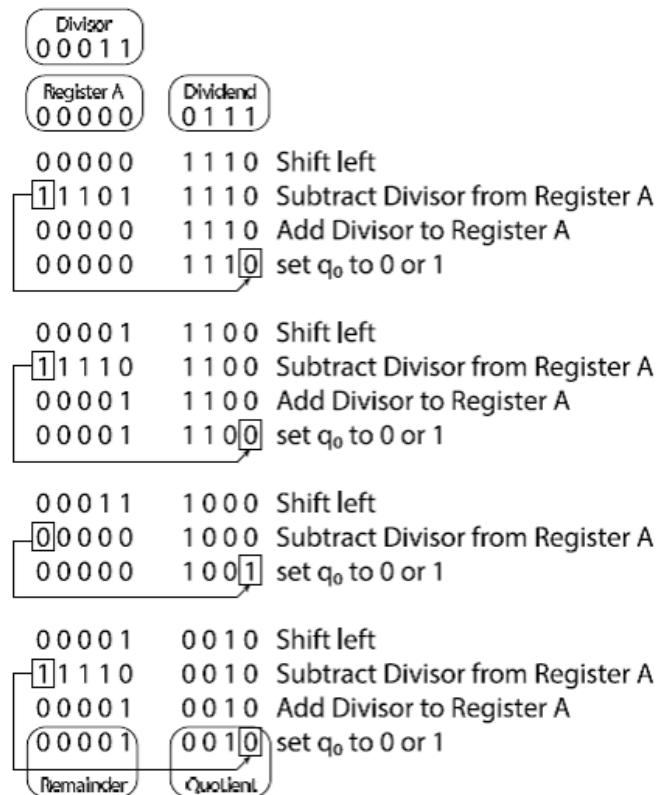
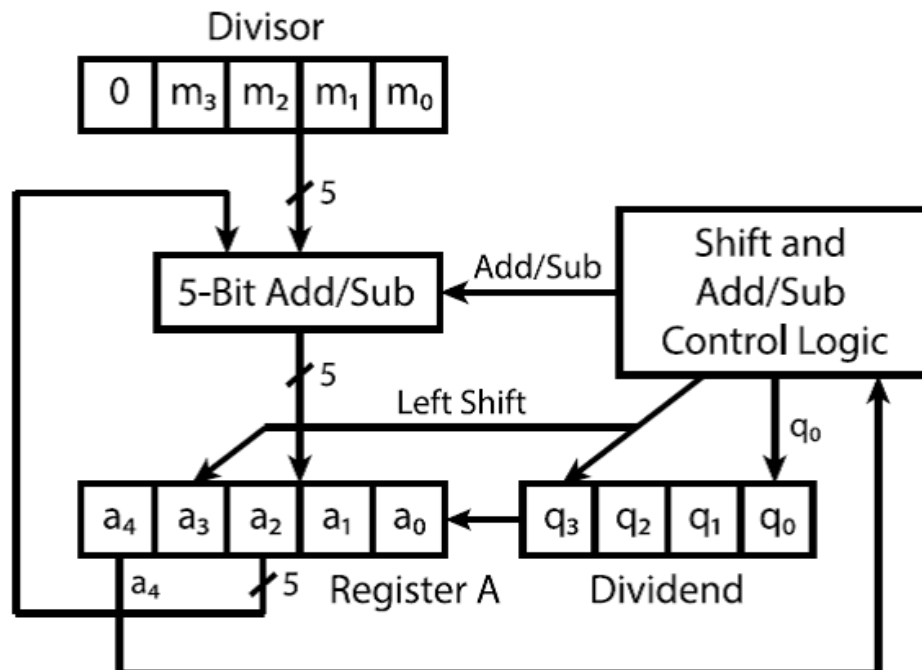

Figure 5: An example of how a restoring divider works.
Figure 6: Block diagram of restoring divider.
Figure 5 shows an example of how the restoring divider works. This mimics what you do when you do long division by hand. In this specific example, number 7 (*Dividend*) is divided by number 3 (*Divisor*). The restoring divider starts with *Register A* set to 0. The *Dividend* is shifted left and the bit shifted out of the left most bit of the *Dividend* (called the most significant bit or MSB) is shifted into the least significant bit (LSB) of *Register A* as shown in Figure 6.
The *Divisor* is then subtracted from *Register A*. This is equivalent to adding the 2's complement of the *Divisor* (11101 for the example in Figure 5) to *Register A*. If the MSB of *Register A* is a 1, then we restore *Register A* back to its original value by adding the *Divisor* back to *Register A*, and set the LSB of the *Dividend* to 0. Else, we do not perform the restoring addition and immediately set the LSB of the *Dividend* to 1.
1. Draw a schematic for the datapath of your circuit. It will be similar to Figure 6. You should show how you will initialize the registers, where the outputs are connected to, and include all the control signals that you require.